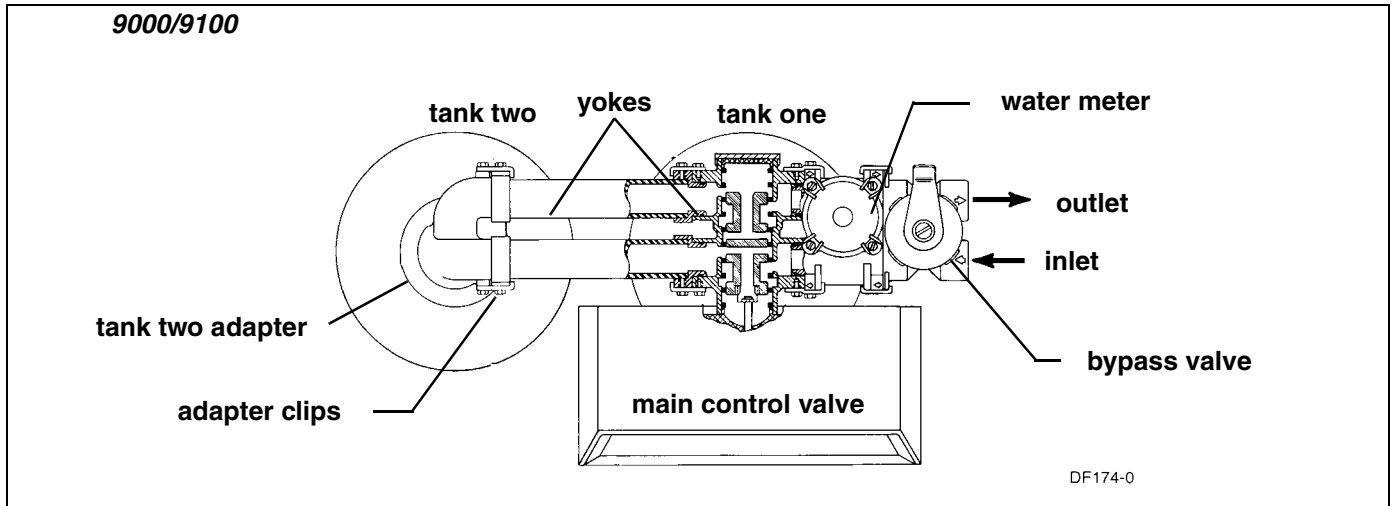
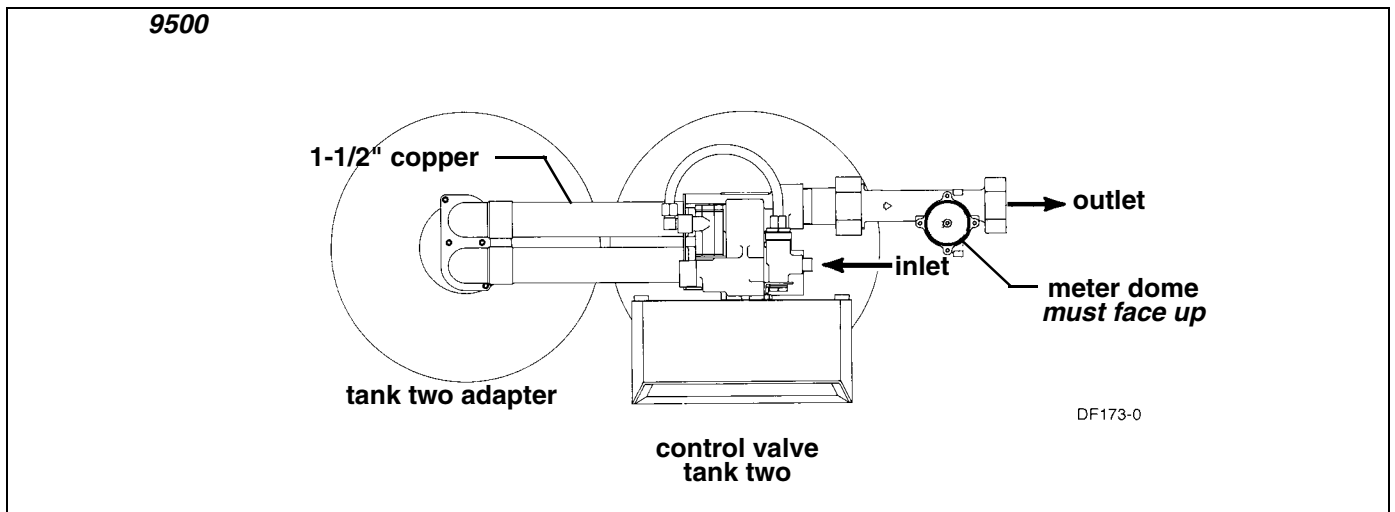

Figure 1: 9000/9100
Figure 2: 9500
14. Tank one has control valve and tank two has adapter. See *Figure 1, page 5* or *Figure 2, page 5*.